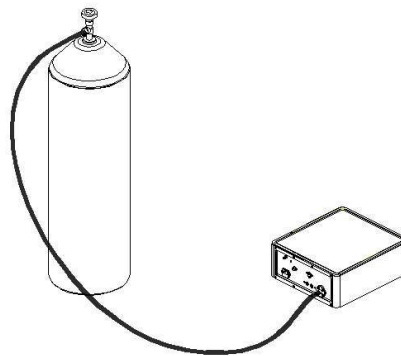

Figure 4-4 The insufflator directly connects with the CO₂ steel cylinder
2. Use a wrench to connect the high pressure tube to the CO₂ gas inlet on the insufflator's rear panel, with a force of 11.8N.m (1.2kgf.m) to fasten it. As shown in Figure 4-4.